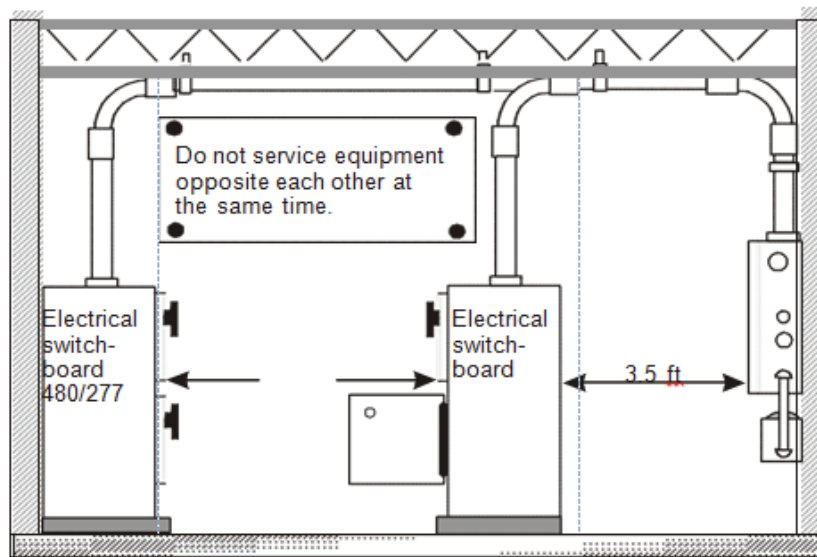

Figure 6.2 – Access and working space requirements around enclosures and equipment
- a. Figure 6.2 and Table 6.4 provide access and working space distances around electrical equipment and enclosures, e.g., panel boards, motor controls, disconnects, etc., to permit ready and safe operation and maintenance. Keep working space clear at all times.